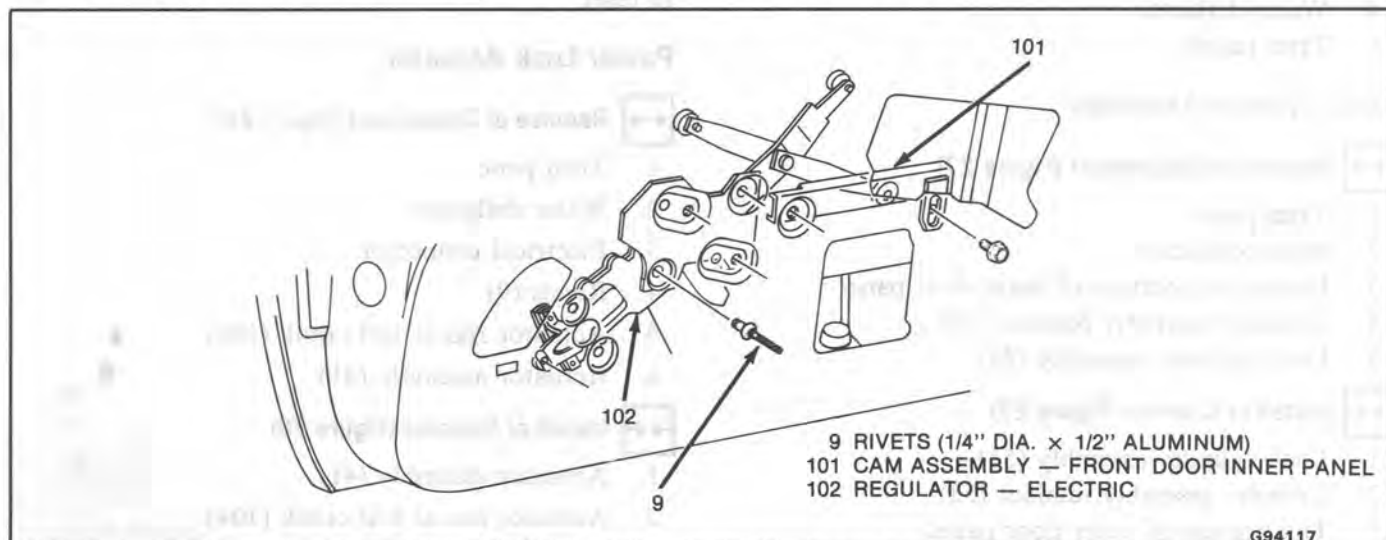

Fig. 25-Window Regulator Assembly - Electric
Remove or Disconnect (Figure 25)
**↔** Install or Connect (Figure 25)
1. Regulator – electric (102)
2. Rivets (9) – regulator to inner door
4. Cam assembly – front door inner panel (101)